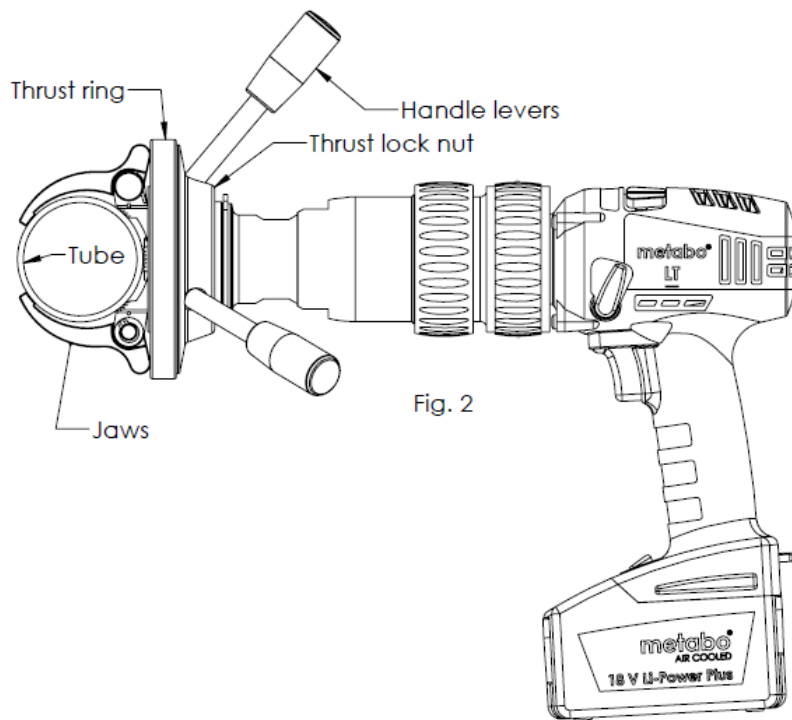

Fig. 2
- Referring to fig. 2, fasten the snap drill to the tube by tightening the jaws against the tube by rotating the thrust lock nut clockwise against the thrust ring by the help of the handle levers. Use both hands for final tightening.